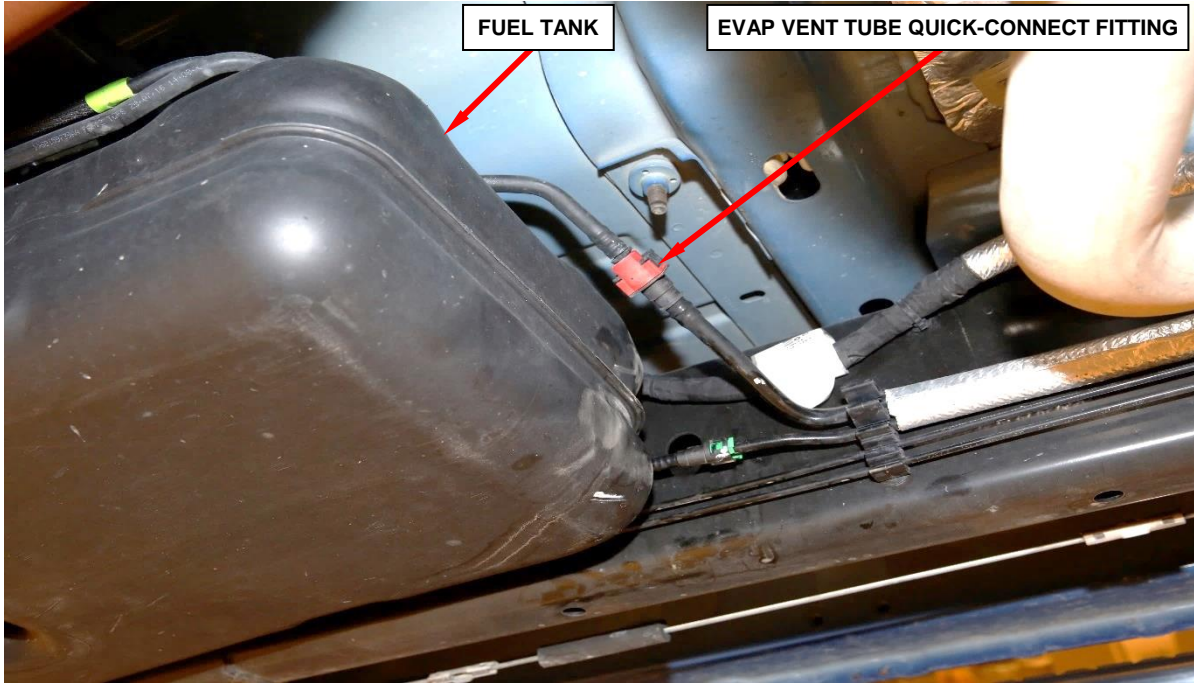

Figure 12 – EVAP Vent Tube Quick-Connect Fitting at Front of Fuel Tank
31. Disconnect the EVAP vent tube quick-connect fitting at the front of the fuel tank (Figure 12).
73. Connect the EVAP vent tube quick-connect fitting at the front of the fuel tank (Figure 12).